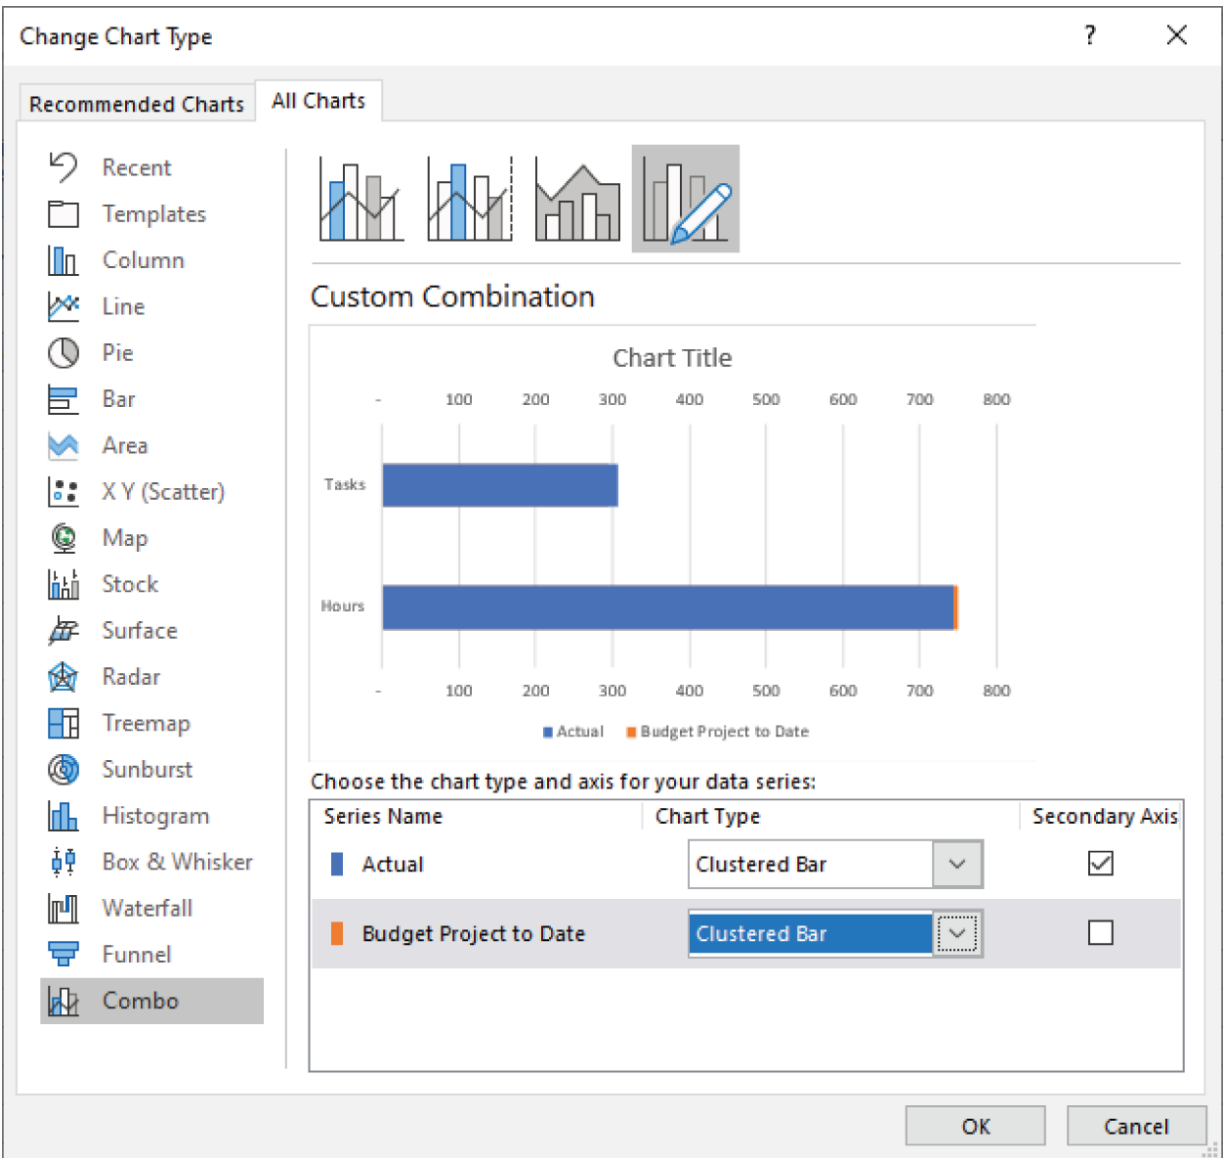

Figure 2.7: Move the Actual series to the secondary axis.
6. On the Change Chart Type dialog, move the Actual series to the secondary axis. Figure 2.7 shows the Change Chart Type dialog.